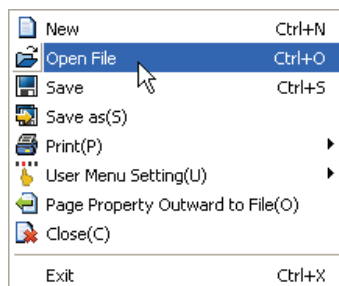

Figure 1-31
Step 1. Click **File (E) > Open File** to create an old project (Figure 1-31).